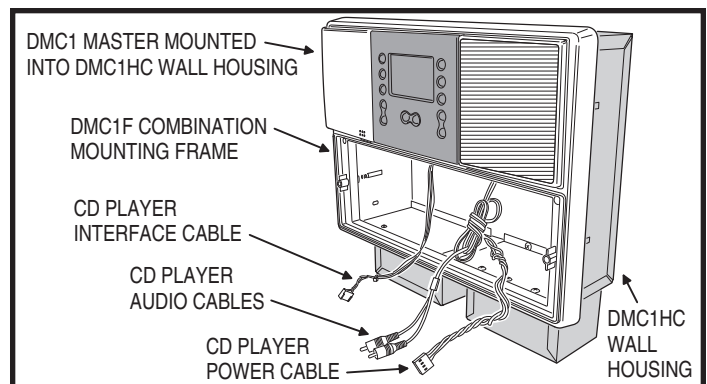

Figure 23. DMC3-4 & DMC1F Frame Ready for CD/MP3 Player
7. Secure the DMC3-4 Master Station to the wall housing using the two long screws provided (see Figure 23). DO NOT OVERTIGHTEN THE SCREWS THE FRAME MIGHT DISTORT OR CRACK!